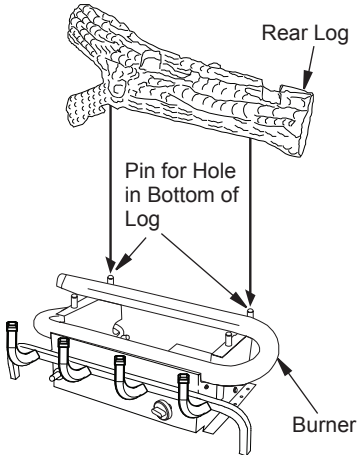

Figure 24 - Installing Rear Log
1. Place the rear log onto base. Notches in the back of the log must seat over the pins on base as shown in Figure 24. Make sure the rear log is pushed back as far as it will go.